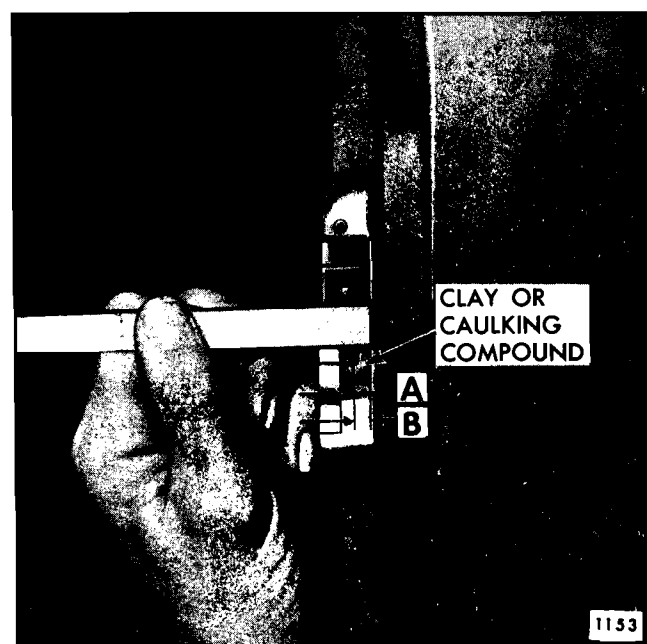

Fig. 9-49—Tail Gate Lock Striker Caulking Check
- To determine if tail gate lock striker service spacers are required, apply modeling clay or body caulking compound in the lock striker notch where the lock extension engages and close tail gate to form a measurable impression in the clay or caulking compound, as shown in Figure 9-49.